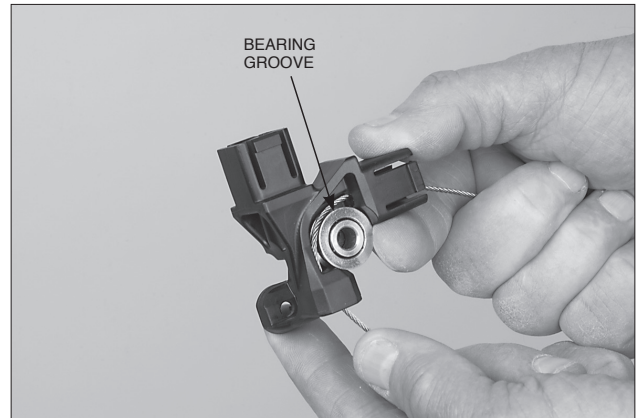

FIGURE 5-74
5. Place the bearing against the wire rope. Make certain that the wire rope is in the bearing groove. See Figure 5-74.